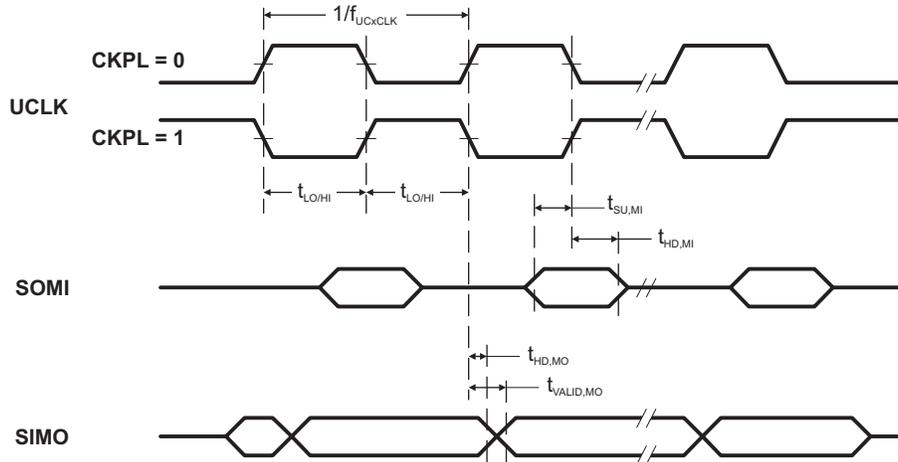
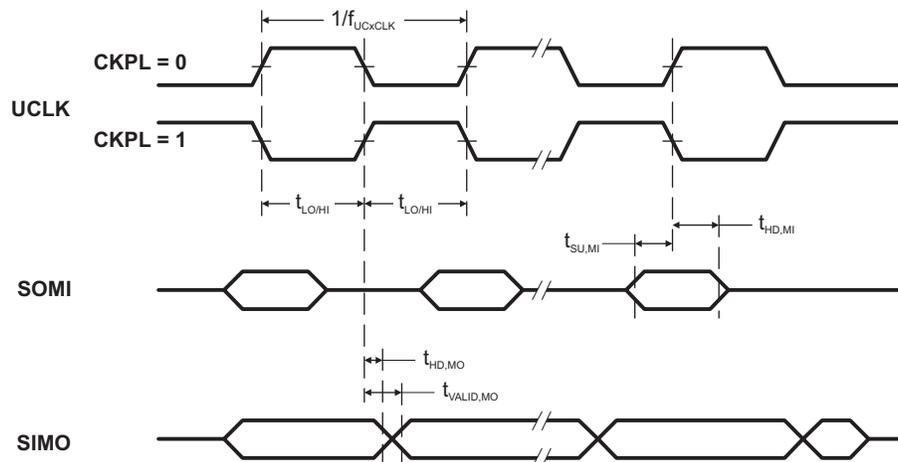

Figure 5-13. SPI Master Mode, CKPH = 0
Figure 5-14. SPI Master Mode, CKPH = 1
(see Note (1), Figure 5-13 and Figure 5-14)
- (1) fUCxCLK = 1/2tLO/HI with tLO/HI ≥ max(tVALID,MO(USCI) + tSU,SI(Slave), tSU,MI(USCI) + tVALID,SO(Slave)). For the slave's parameters tSU,SI(Slave) and tVALID,SO(Slave) see the SPI parameters of the attached slave.
- (2) Specifies the time to drive the next valid data to the SIMO output after the output changing UCLK clock edge. See the timing diagrams in Figure 5-13 and Figure 5-14.
- (3) Specifies how long data on the SIMO output is valid after the output changing UCLK clock edge. Negative values indicate that the data on the SIMO output can become invalid before the output changing clock edge observed on UCLK. See the timing diagrams in Figure 5-13 and Figure 5-14.
- (2) Specifies the time to drive the next valid data to the SOMI output after the output changing UCLK clock edge. See the timing diagrams in Figure 5-13 and Figure 5-14.
- (3) Specifies how long data on the SOMI output is valid after the output changing UCLK clock edge. See the timing diagrams in Figure 5-13 and Figure 5-14.